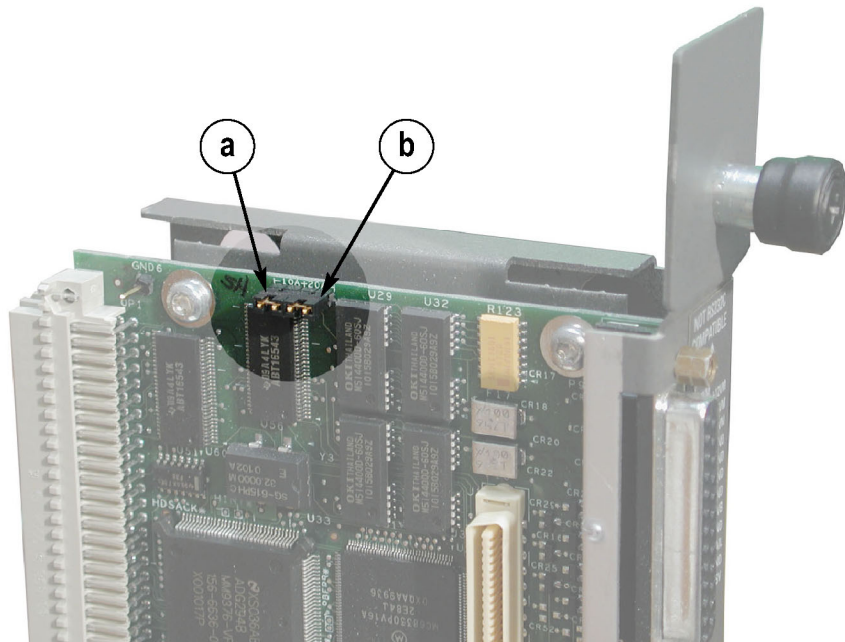

Figure 36: Set the jumpers on the Enhanced Monitor Card
4. Note the pair of jumpers at the top of the Enhanced Monitor Card. (See Figure 36.) Also note the circuit board number label near the bottom of the Enhanced Monitor Card.